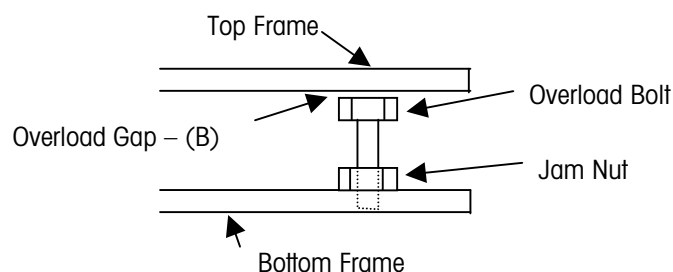

Figure 4-2: Corner Overload Stop Positions (1 Each Corner)
6. If the corner overload stops are out of adjustment, loosen the overload bolt jam nuts. Refer to Figure 4-2.